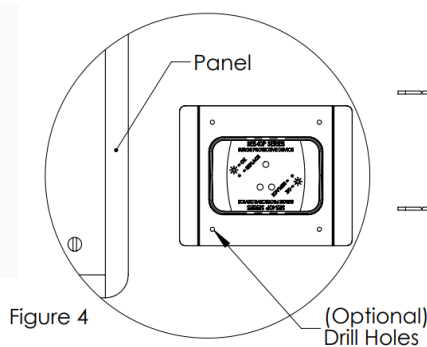

Figure 4
6. **(Optional) Drill holes.** If desired, carefully drill holes through the dimples so that the Flush Mount Plate may be fastened with screws. Choose screws and drill bit size as required by the application. See Figure 4.